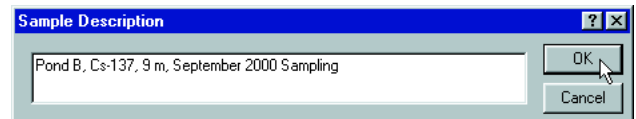

Fig. 46A
3.3 Select **Acquire, Start**. Dialog boxes will appear, which require user input for sample information prior to the start of the acquisition (Fig. 46A, B). Input the information for each dialog box and click **OK**. The information is now stored with the spectrum for analysis. Once the input parameters are complete, the count will begin.